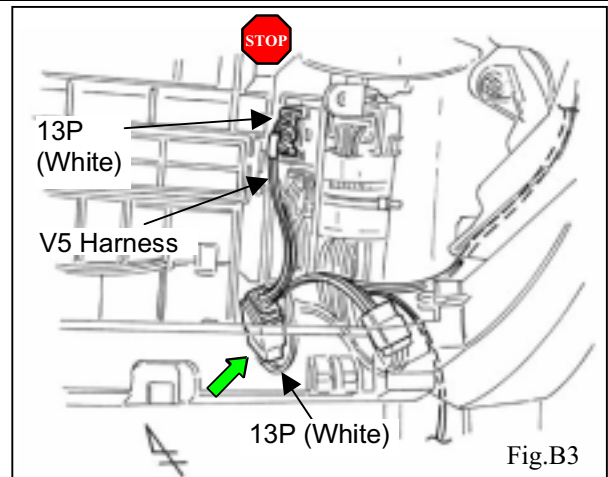

Fig.B3
4. Locate and disconnect the white 13P connector from the connector block in the glove box area. Plug in the V5 harness  white 13P connectors between the vehicle harness  white 13P connector and the connector block. (Fig. B3)